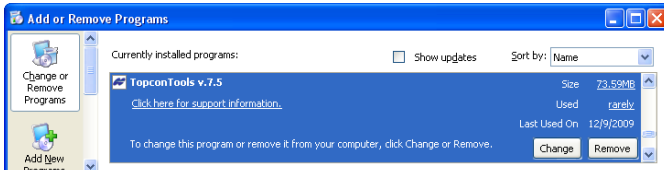

Figure 1-7. Add and Remove Programs
2. Select *Topcon Tools v.7.5* in the *Add or Remove Programs* and click **Change** (Figure 1-7):